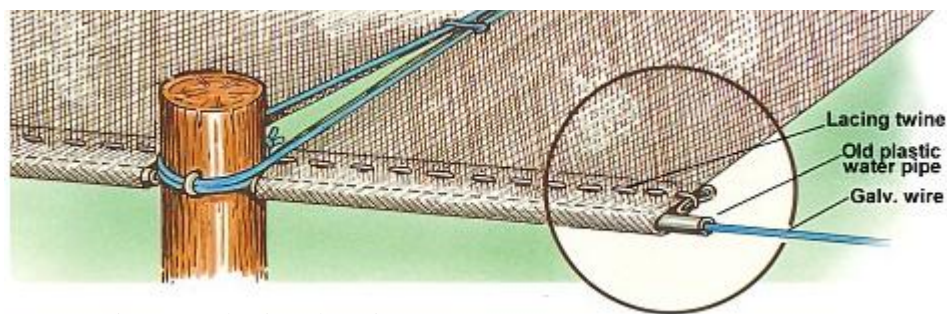

Fig 3: Anchoring the wire
- Configuration is as shown in Figure 3